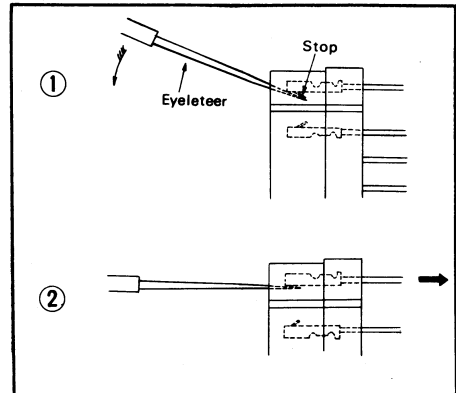

Fig. 3
4. In order to remove the lead wire pin clamp from the connection socket, insert a eyeleteer into the socket hole and touch it to the lead wire pin clamp stop. (See fig. 3-①)
5. Bend the stop inward toward the lead wire pin clamp and pull out the lead wire pin clamp. (See fig. 3-②)